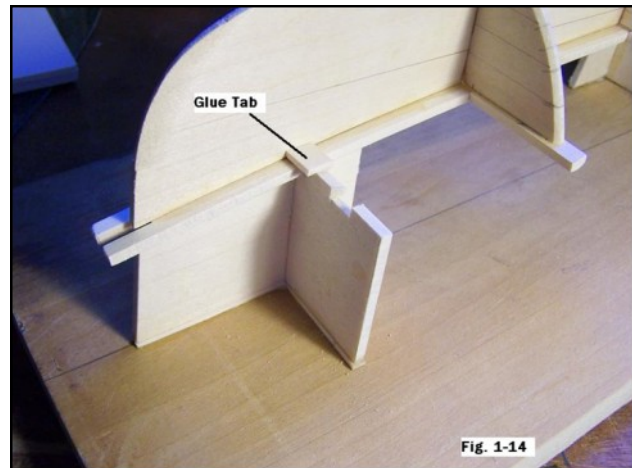

Fig. 1-14
- Finally, SPOT-GLUE the Mold onto the Horses. Only five spots are sufficient, because you want to be able to remove the Mold easily when you begin the framing. First, spot-glue the Midship Horse with a spot of glue at its very center and place the Mold in its proper position. The other four spots require “glue tabs,” as shown in the End View of Bow or Stern Horse on Sheet 1A and in Fig. 1-14 below.